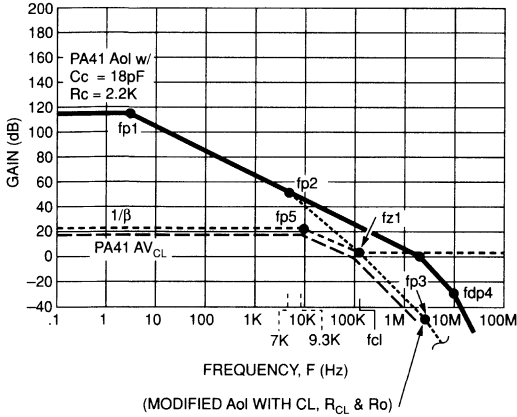
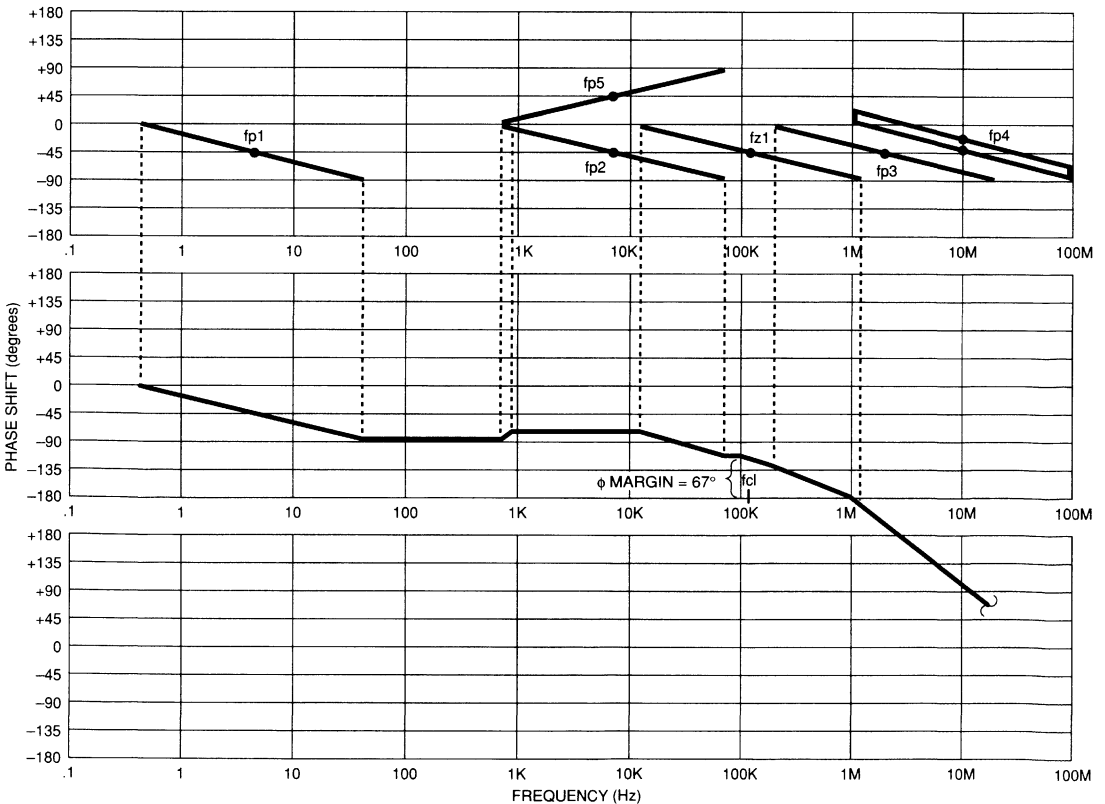

FIGURE 27. POWER OP AMP MAGNITUDE PLOT FOR STABILITY
FIGURE 28. POWER OP AMP OPEN LOOP PHASE PLOT FOR STABILITY
- STEP 1:** Compensate PA41 for stability first: Refer to Figure 27 (see second page following this one) which shows how capacitive load modifies Aol. Figure 28 (see second page following this one) confirms that the selected 1/ β plot will guarantee stability for the PA41.